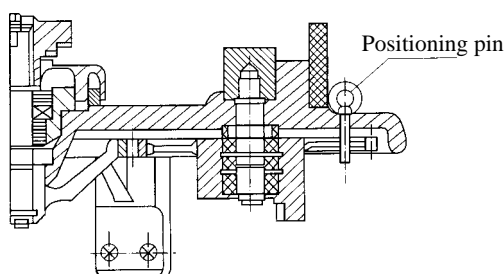

Figure 18 Diverter switch set positioning pin
5.1.3.9 Check the head position and its setting position. Secure the tap changer head flange to the mounting flange. At last, remove the red-painted dowel pin from the intermediate gear wheel connector at the cylinder bottom of the diverter switch. (See Fig 18)
f. From the intermittent gear connector at the oil compartment bottom remove the red-painted dowel pin (See Fig 18). To ensure the proper operation of the tap changer and the correct mounting position, the bell type tap changer should be pre-assembled. The actual procedure for pre-assembling are as follows: